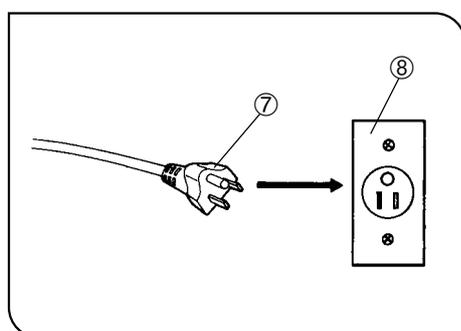

Fig. 16
4. Insert the power cord plug ⑦ securely into the wall outlet ⑧. (Fig. 16)